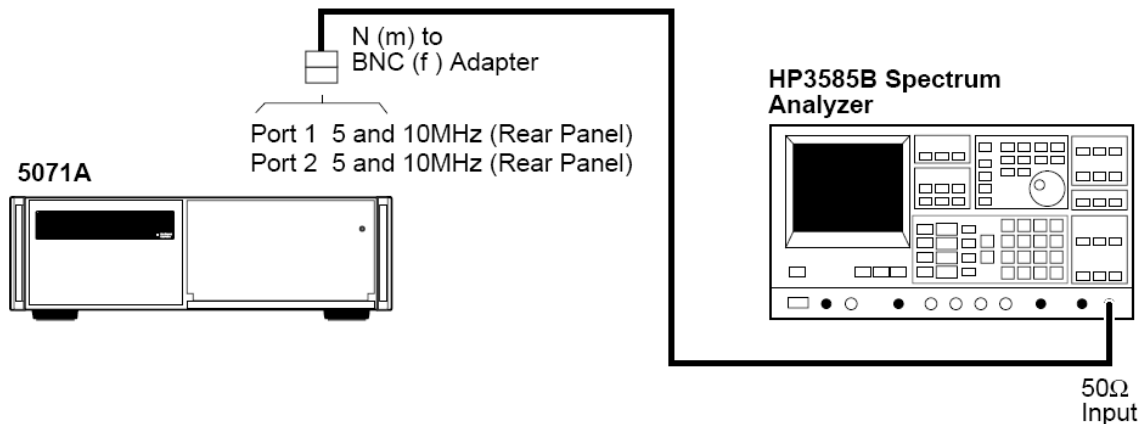

Figure 1-3. Harmonic Distortion Test Setup
- 1 Connect the 5071A Port 1 to the HP/Agilent 3585B analyzer as shown in Figure 1-3. Set the 3585B for 50 Ω input impedance.